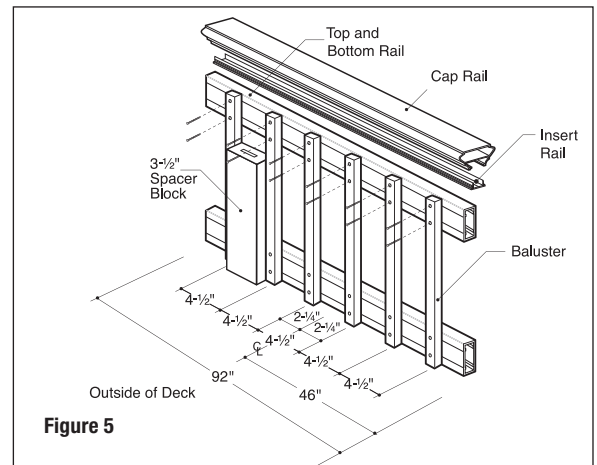

Figure 5
Traditional, Baroque and Arc balusters: Both top and bottom rails will be installed with the pre-drilled holes facing down to prevent water from collecting in the rail. Maximum 4-1/2" on-center and equal spacing for the end spacing. Start by finding the center of the rail. Rail length ÷ 2 = center of rail. Start the first aluminum balusters 2-1/4" on-center each side of the center line. Mark every 4-1/2" from these lines to each end. This will leave the end spacing less than 4" on both ends and require 20 aluminum balusters (**Figure 5**). **Tip:** Use a piece of 2x4 (3-1/2" actual) as a spacer block for the spacing between balusters.
Glass balusters: Both top and bottom rails will be installed with the pre-drilled holes facing down to prevent water from collecting in the rail. 7-1/2" on-center and equal spacing for the end spacing. Start by finding the center of the rail. Rail length ÷ 2 = center of rail. Start the first glass baluster 2-1/4" on-center of each side of the center line. Mark every 7-1/2" from the center line to each end. This will leave the end spacing 4" or less on both ends and require 12 glass balusters. If installing using connectors, attach connectors to both rails on marked locations. **Tip:** If face-mounting to rail, use a piece of 2x4 (3-1/2" actual) as a spacer block for the spacing between balusters (**Figure 5**).
Step 12 Traditional, Baroque, Arc balusters; and Face-Mount Glass balusters: Start the first two balusters 2-1/4" on-center each side of the center of the rail and work out to each end. Using the baluster as a guide, drill 9/64" holes in the rails at each baluster location. Use a 2x4 as a spacer block to space the next baluster. Working toward the ends, drill and attach each baluster with the screws provided (**Figures 5 & 6**).